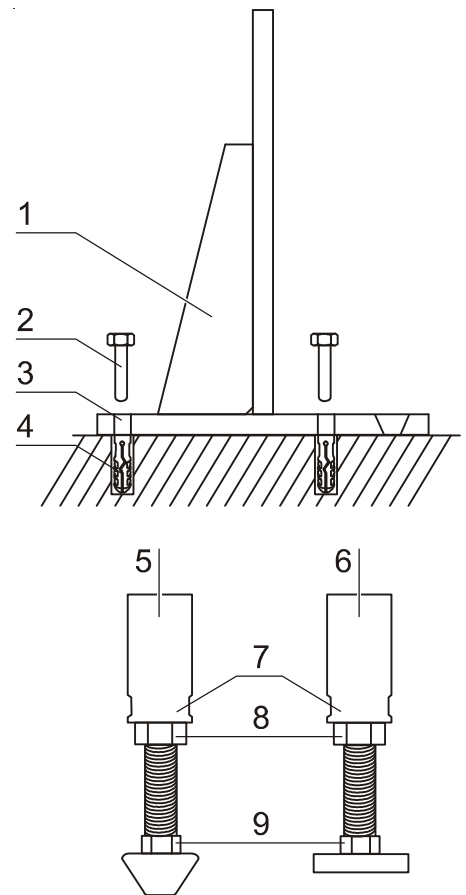

Fig. 17,
4. **Fig. 17:** The docking station [1] is secured to the floor with 4 floor anchors. This requires a concrete foundation or screed of sufficient strength (see weights in Section 10, Technical Data).